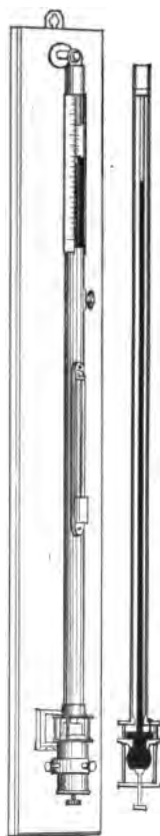

FIG. 89. — Mercurial barometer.
**barometer.** To "read the barometer" means simply to measure accurately the height of the mercury column above the surface of the liquid in the reservoir. In the form of barometer shown in figure 89 this reservoir has a flexible bottom which may be raised or lowered so as to bring the surface of the mercury to the zero point of the scale which is at the tip of a point projecting into the reservoir. The height of the mercury is then read by observing the position of the liquid in the tube.